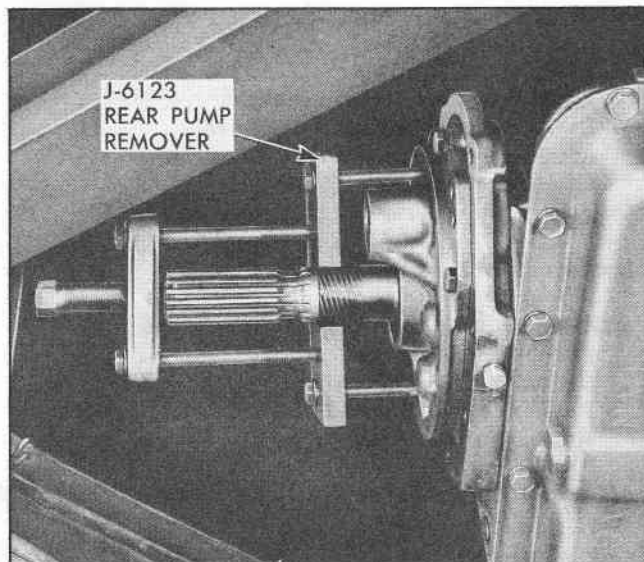

Fig. 12 Rear Pump Remover J-6123
5. Assemble Rear Pump Remover J-6123 to rear pump and output shaft as illustrated in Fig. 12. NOTE: The remover studs thread into two pump cover screw holes.